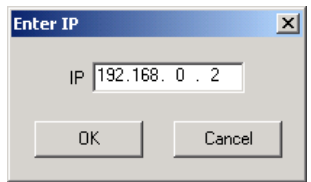

Figure 8.
- 8.6 In the opened **Enter IP** window enter Receiver's default IP address 192.168.0.2 (Fig. 8) and press the **OK** button.